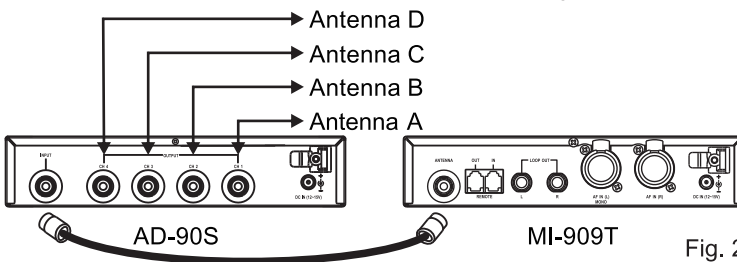

Fig. 2
1. Installing the Input Signal. Fig. 2: